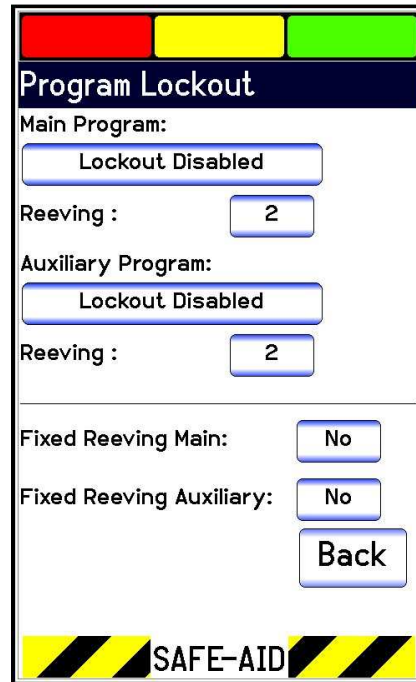

Figure 24
2. Enter the four digit password [- - - -] followed by the **Enter** button, the Program Lockout screen will be displayed (figure 24).
3. To lock or cancel a locked program select either button below the Main or Auxiliary Program, **Enable Lockout** screen (figure 24) will be displayed.
4. Select **No** - the screen will to return back to the Program Lockout screen and **Lockout Disabled** will be displayed in the selected button (figure 24). Repeat this for main and auxiliary programs if all programs are to have access.
2. Enter the four digit password [- - -] followed by the **Enter** button, the Program Lockout screen will be displayed (figure 24).